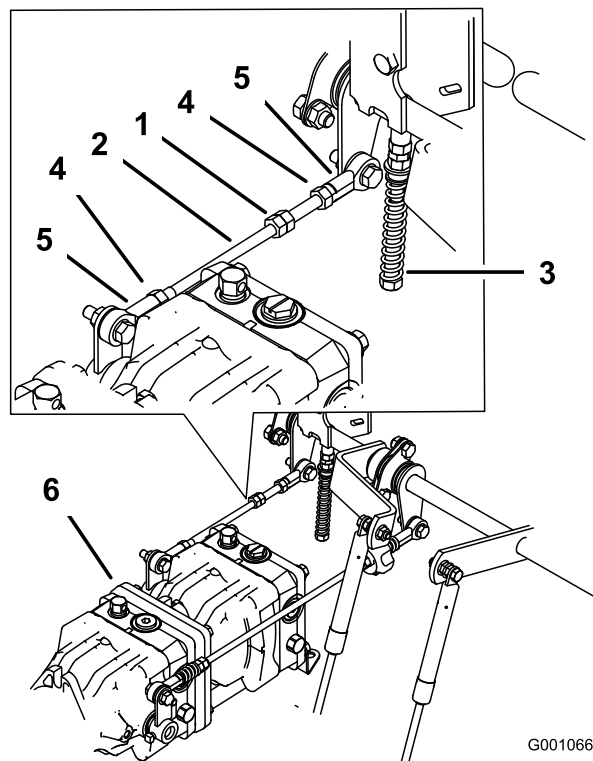

Figure 96
1. Loosen the locknuts at the ball joints on the pump control rod (Figure 96).
3. Adjust the pump rod length by rotating double nuts on rod, in the appropriate direction, until wheel is still or slightly creeps in reverse (Figure 96).
6. Tighten the locknuts at the ball joints (Figure 96).